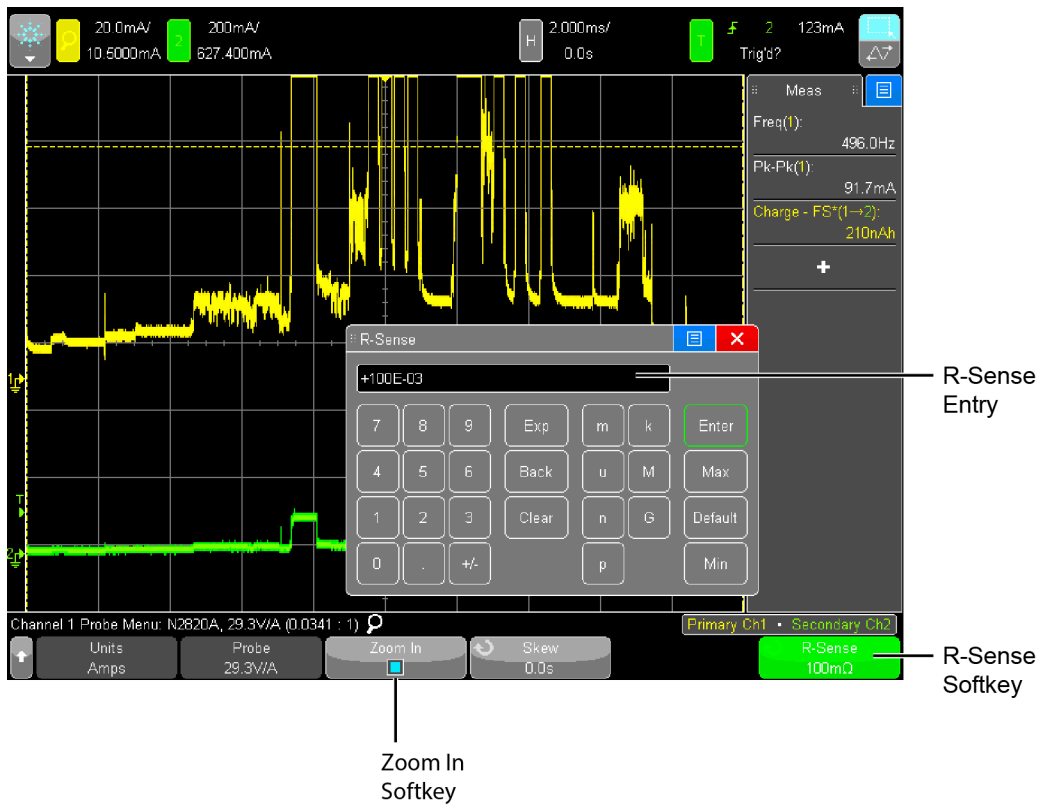

Figure 10 R-Sense Entry Box
- 3 If you are using an N2821A probe, press the **Zoom-In** softkey to toggle between zoomed-in (blue selection box on softkey) or zoomed-out (clear selection box) for the channel. This softkey is shown at the bottom of Figure 10 on page 30.
- 4 If you are using an N2825A user-defined head, which uses a DUT-mounted R_{SENSE} resistor, press the **R-Sense** softkey, shown in Figure 10 on page 30. Then, enter the resistance of the R_{SENSE} resistor that you are using.